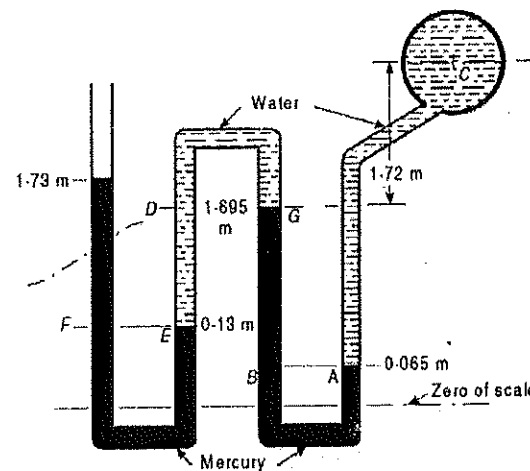

Fig. 1
- (b) For a compound manometer shown in Fig 1, what is the gauge pressure at C if the manometric fluid is mercury and if the fluid in the pipe and in the tubing which connects the two U-tubes is water? (13)